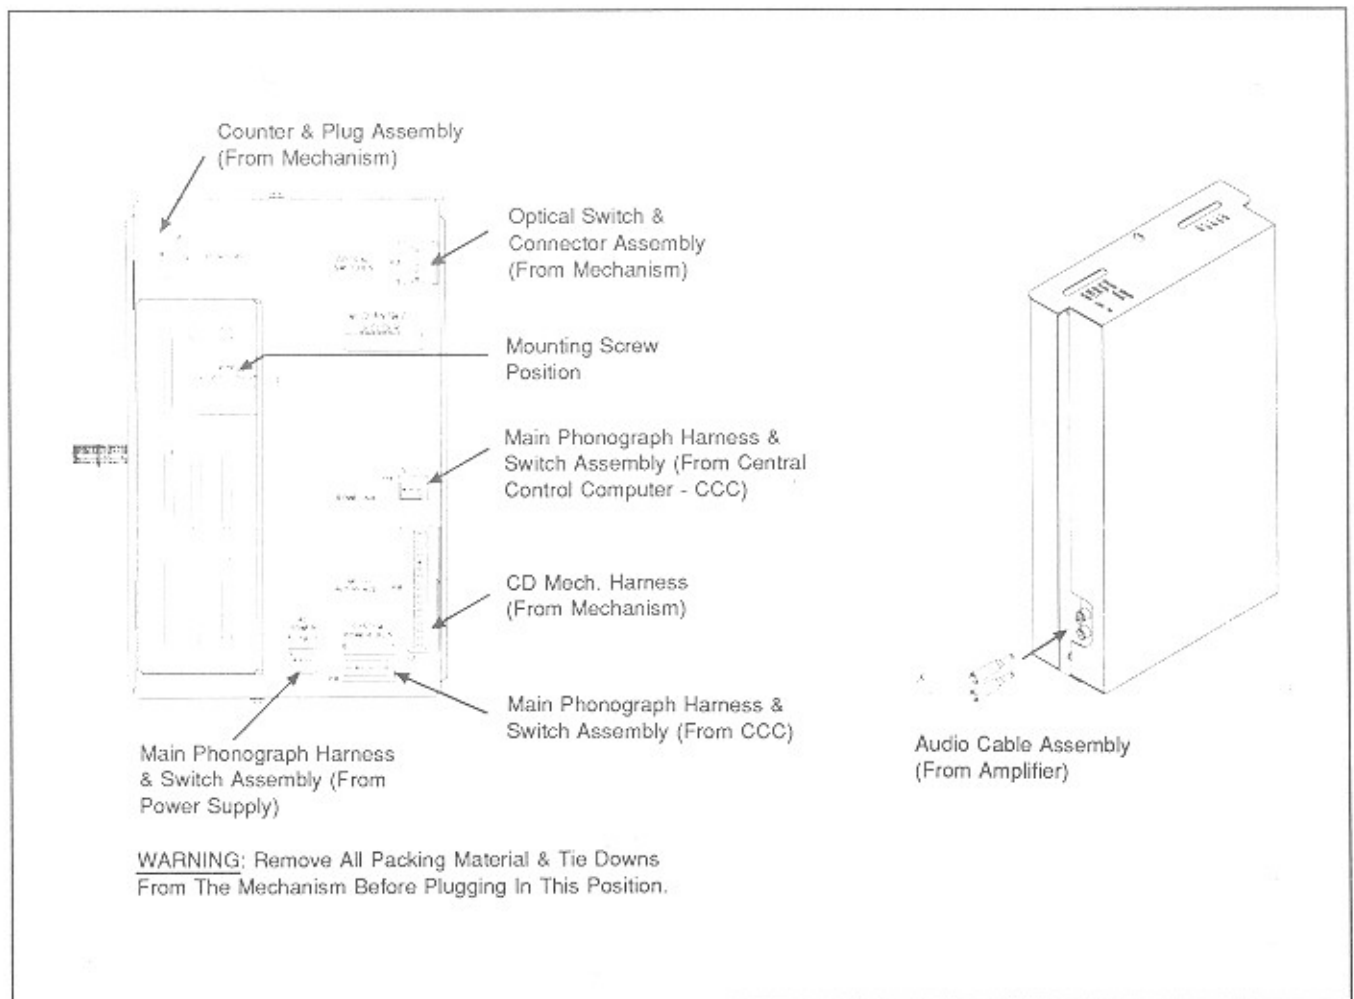

Figure 6-1. Mechanism Control Connecting Diagram
2. Remove all connectors from the mechanism control unit (including the two attached to the player), loosen the mechanism control unit mounting screw (*figure 6-1*), and remove the mechanism control unit.